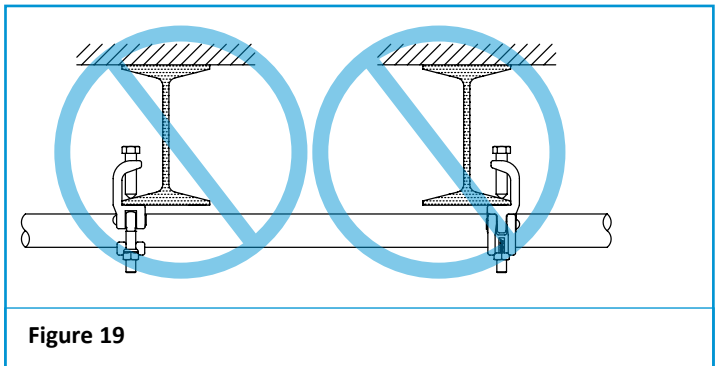

Figure 19
3. Do **not** attach a tube to multiple beams using only one beam clamp at each connection, unless specifically designed by a qualified engineer (Fig. 19).